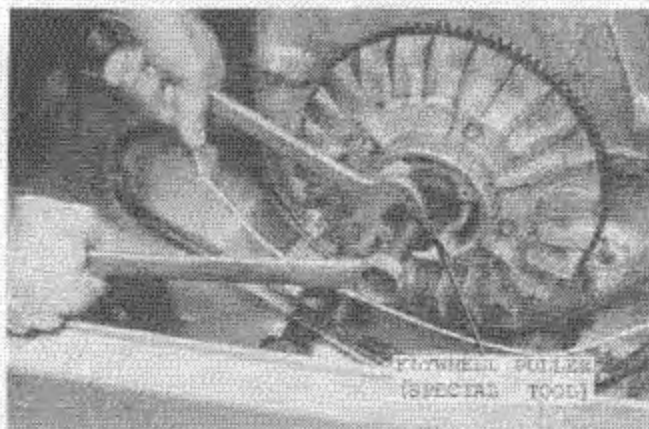

Fig. 1 — Removing Flywheel
4. Use Special Tool No. 444-31-329-0 and remove flywheel. See Fig. 1.